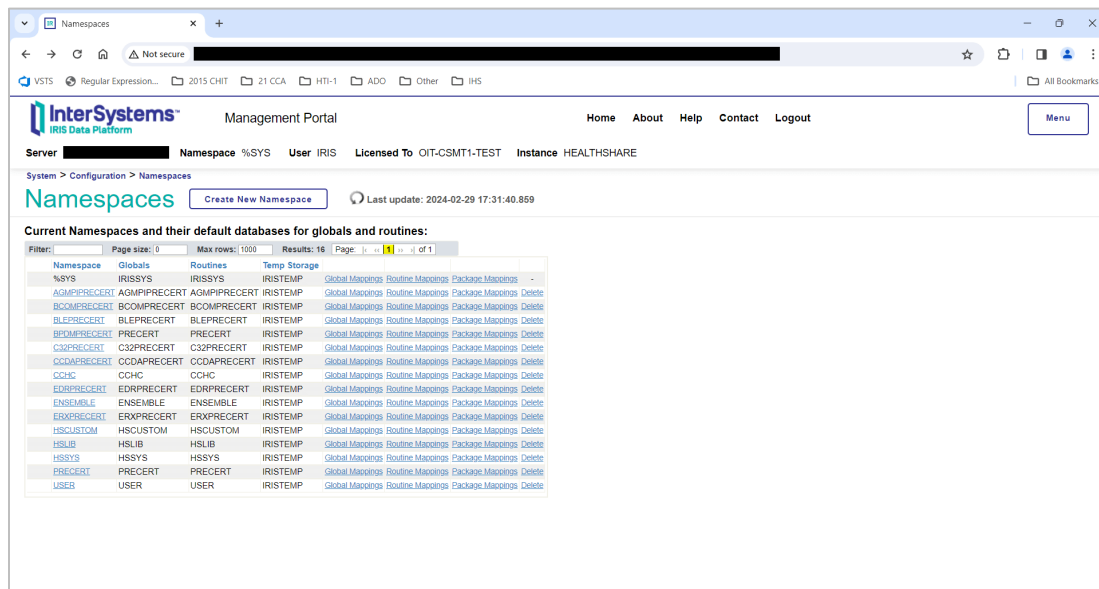

Figure 4-1: Select **Global Mappings**
3. On the **Namespaces** page, click **Global Mappings** in the AGMPIxxx namespace row to display the **Global Mappings** page, as shown in Figure 4-1.